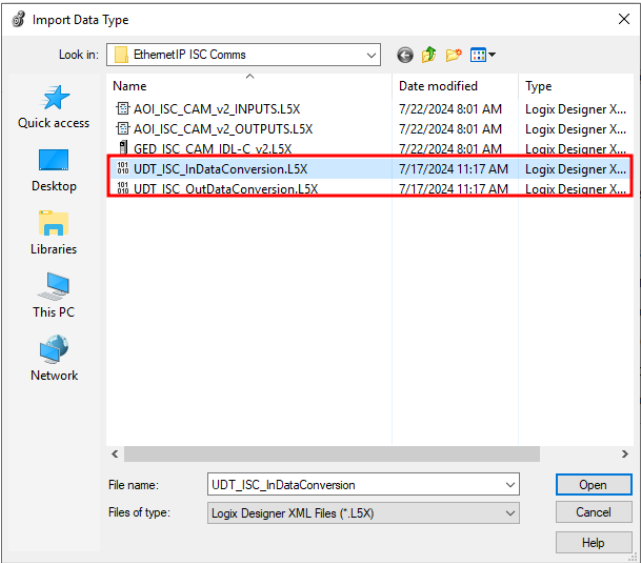

Figure 40: UDT Files to Import
31. Make sure to import "UDT_ISC_InDataConversion" and "UDT_ISC_OutDataConversion," Figure 40.